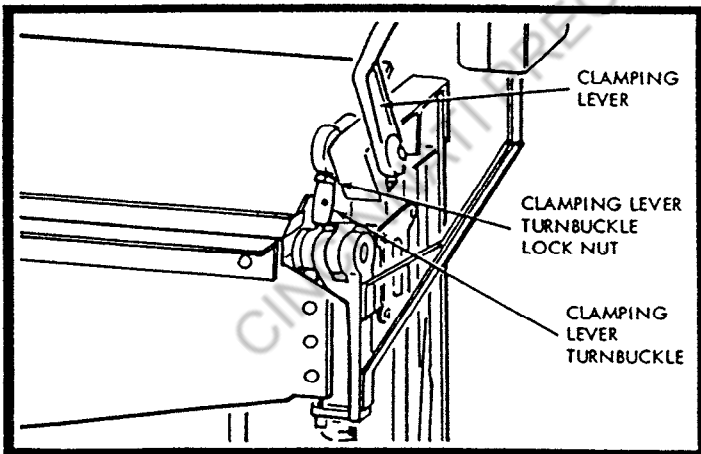

Figure 4. Regulating Clamping Pressure
7. With Clamping Lever in unlocked (up) position, adjust Clamping Lever Turnbuckles (figure 4) and Lower Beam Lift Spring Rod Adjusting Nuts as necessary to obtain desired clamping pressure. Pressure should be firm enough so metal will not slip when clamped.
2. Check gauge of material to be formed to be sure it is within rated capacity of your brake. Place small sample of work piece on Lower Beam Jaw and clamp in position by moving the Clamping Lever forward. Sample should now be held firmly in position. To adjust for more or less clamping pressure, move Clamping Lever to unlocked (up) position, loosen the Clamping Lever Turnbuckle Lock Nut (figure 4) on both ends of brake and adjust the Clamping Lever Turnbuckles as necessary to achieve firm clamping pressure. Retighten the lock-nuts.